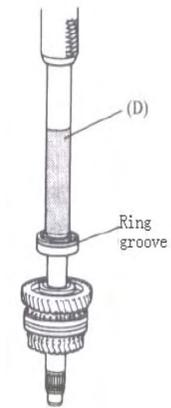
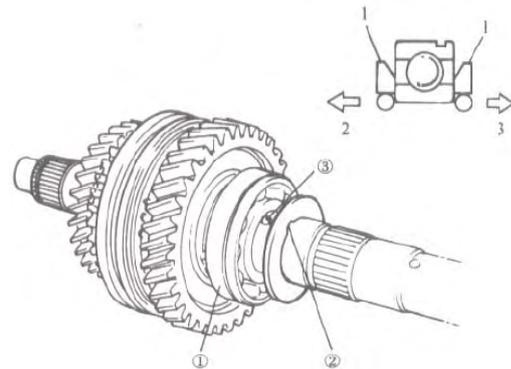

Fig 10-59
Fig 10-60
(3) press-fit centre bearing with bearing installer (D) (special tool), using care for its installing direction. (FIG.10-59)
(4) Install ball and washer.
As shown in FIG.10-60, install washer so that its circumference chamfered side faces centre bearing ① and its slot ② comes over ball ③.